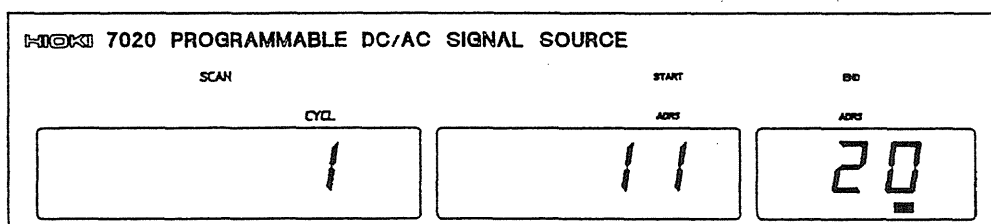

Fig. 5-10 Auto Scan Recall
- ② Set the cycle to 1, the start address to 11 and the end address to 20. See Fig. 5-10.
- ③ Press the SCAN key again. Data will be recalled from address 11 during the set output time (2 seconds).
- ④ After data have been recalled from the end address 20, the display will return to the condition shown in Fig. 5-10 (to continue scanning, press the SCAN key.)
- ⑤ To finish the procedure, press the MEMO. OFF key.